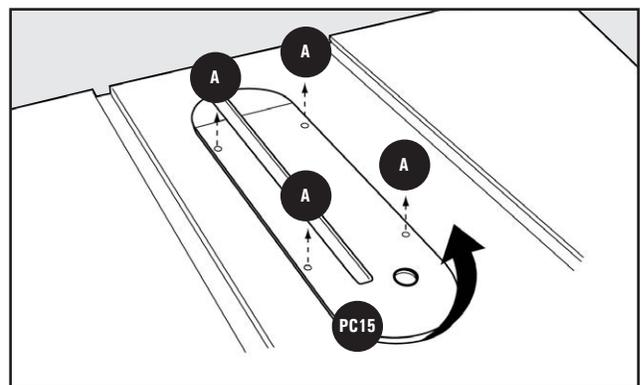

Figure 19
4. To remove Throat Plate, lower Blade below Tabletop, then carefully slide the throat plate out from the front of the table to the rear, using the cutout on Figure 19.